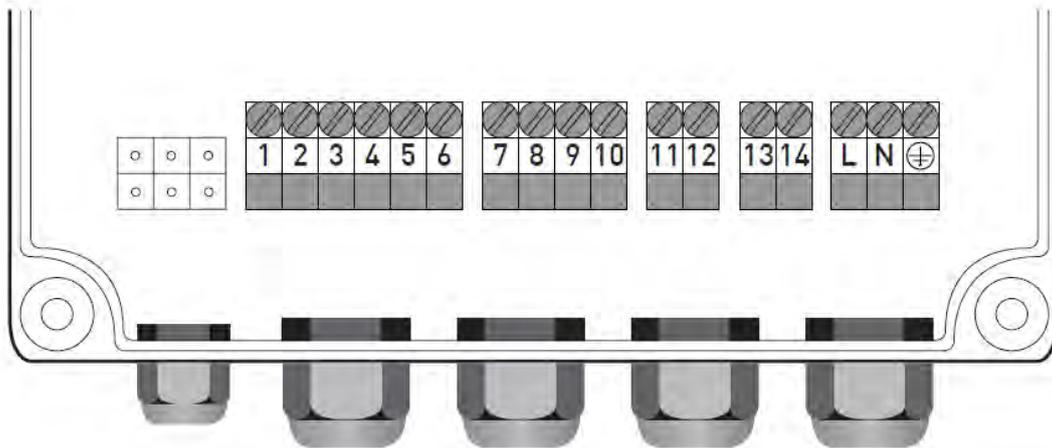

Figure 2
1. Connect the alarm to relay 1 (figure 2)